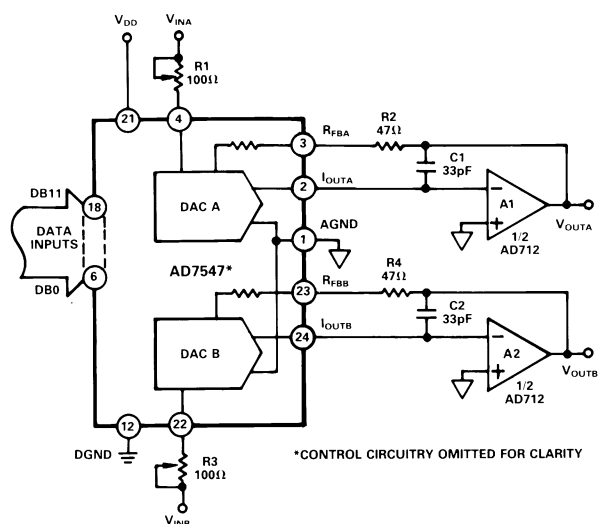
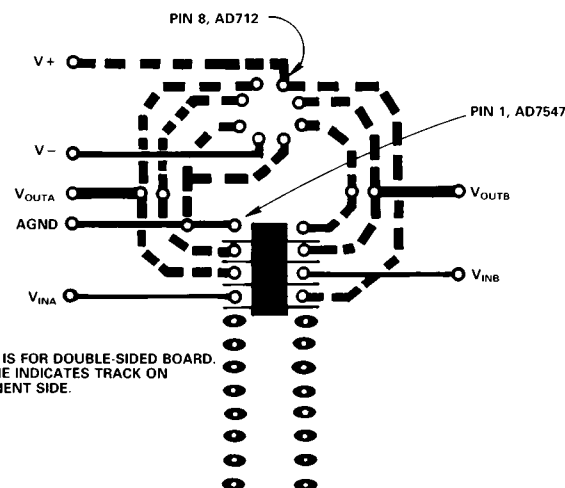

Figure 4. AD7547 Unipolar Binary Operation
Figure 10. Suggested Layout for Circuit of Figure 4
Figure 4 shows the circuit diagram for unipolar binary operation. With an ac input, the circuit performs 2-quadrant multiplication. The code table for Figure 4 is given in Table II.
Table II. Unipolar Binary Code Table for Circuit of Figure 4
**Output Offset:** CMOS D/A converters in circuits such as Figures 4 and 5 exhibit a code dependent output resistance which in turn can cause a code dependent error voltage at the output of the amplifier. The maximum amplitude of this error, which adds to the D/A converter nonlinearity, depends on  $V_{OS}$ , where  $V_{OS}$  is the amplifier input offset voltage. To maintain specified operation, it is recommended that  $V_{OS}$  be no greater than  $(25 \times 10^{-6})(V_{REF})$  over the temperature range of operation. Suitable op amps are the AD711C and its dual version, the AD712C. These op amps have a wide bandwidth and high slew rate and are recommended for wide bandwidth ac applications. AD711/AD712 settling time to 0.01% is typically  $1\mu s$ .
**Temperature Coefficients:** The gain temperature coefficient of the AD7547 has a maximum value of  $5\text{ppm}/^{\circ}\text{C}$  and typical value of  $1\text{ppm}/^{\circ}\text{C}$ . This corresponds to worst case gain shifts of 2LSBs and 0.4LSBs respectively over a  $100^{\circ}\text{C}$  temperature range. When trim resistors R1(R3) and R2(R4) are used to adjust full-scale range as in Figure 4, the temperature coefficient of R1(R3) and R2(R4) should also be taken into account. For further information see "Gain Error and Gain Temperature Coefficient of CMOS Multiplying DACs", Application Note, Publication Number E630c-5-3/86 available from Analog Devices.
**High Frequency Considerations:** AD7547 output capacitance works in conjunction with the amplifier feedback resistance to add a pole to the open loop response. This can cause ringing or oscillation. Stability can be restored by adding a phase compensation capacitor in parallel with the feedback resistor. This is shown as C1 and C2 in Figures 4 and 5.
**Feedthrough:** The dynamic performance of the AD7547 depends upon the gain and phase stability of the output amplifier, together with the optimum choice of PC board layout and decoupling components. A suggested printed circuit layout for Figure 4 is shown in Figure 10 which minimizes feedthrough from  $V_{REFA}$ ,  $V_{REFB}$  to the output in multiplying applications.